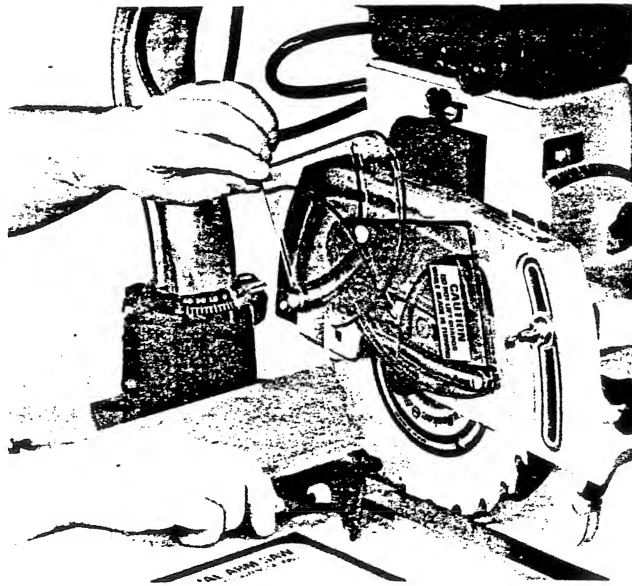

Fig. A10
4. Set the blade perpendicular to the fence (with the lower guard raised) by using a combination square as shown in Fig. A10.